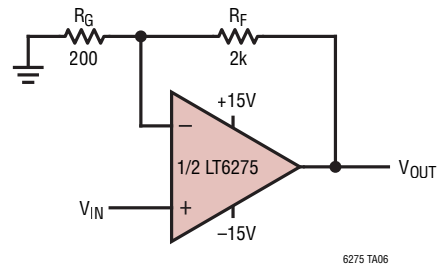
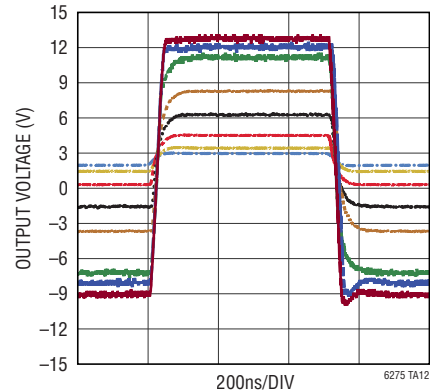

Figure 1. LT6275 Configured in a Noninverting Gain of $A_V = +11V/V$
Figure 5. Composite Amplifier Step Response at Various Output Step Amplitudes ($A_V = -11V/V$)
Figure 1 shows a noninverting amplifier with closed-loop gain of 11V/V. The closed-loop bandwidth of this amplifier is approximately GBW/11 (GBW = Gain-Bandwidth Product). For a step input, the output follows an exponential curve:
Figure 5 shows the output step response of the composite amplifier (measured at the output of the LT6275) at many different amplitudes. At 15V output excursion, the initial slope is measured to be 725V/μs. This slope is faster than the 390V/μs measured with a 15V output excursion using the simple noninverting amplifier of Figure 1. According to Equation (3), this improvement has been made possible because the effective bandwidth of the composite amplifier is higher (and thus has a lower τ_o), as intended.